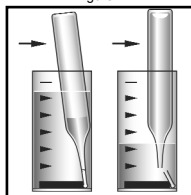

Figure 3
3. Immediately place the ampoule, tip first, into the sample cup and snap the tip. The ampoule will fill leaving a bubble for mixing (fig. 3).
6. Insert the Vacu-vial ampoule into the photometer, flat end first, and obtain a reading in ppm (mg/Liter) sulfide (S).